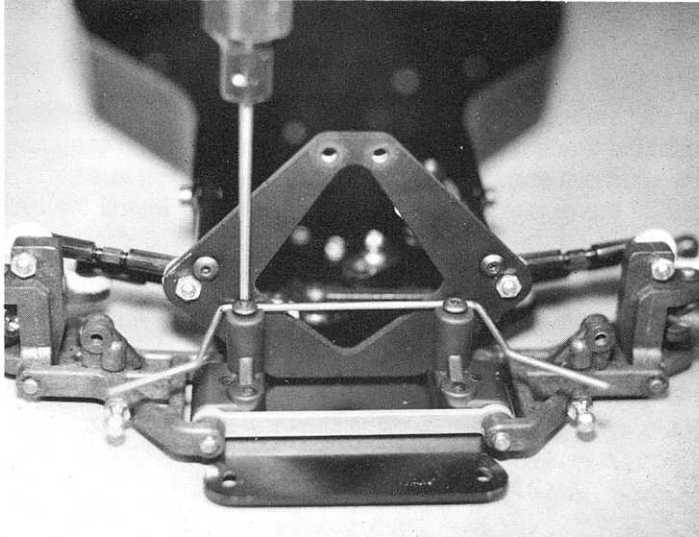

Fig. 36
□ **Fig. 36** We can now take out the #8826 roll bar wire and the two #6920 4-40 x 3/16" button head socket screws. Look at the front side of the front bulkhead. At the top of each bulkhead section, next to the shock strut, you will find a small recess and a hole. Lay the wire in the two recesses with the ends going towards the front of the car. Now use the two #6920 screws to hold the wire in place by threading them into the two holes at